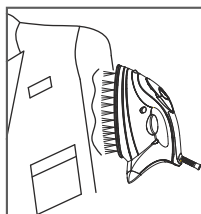

Fig.6
3. Hold the iron in vertical position as shown in figure 6, and then press down the steam button, vertical steam will go out from the steam outlet of the sole-plate.